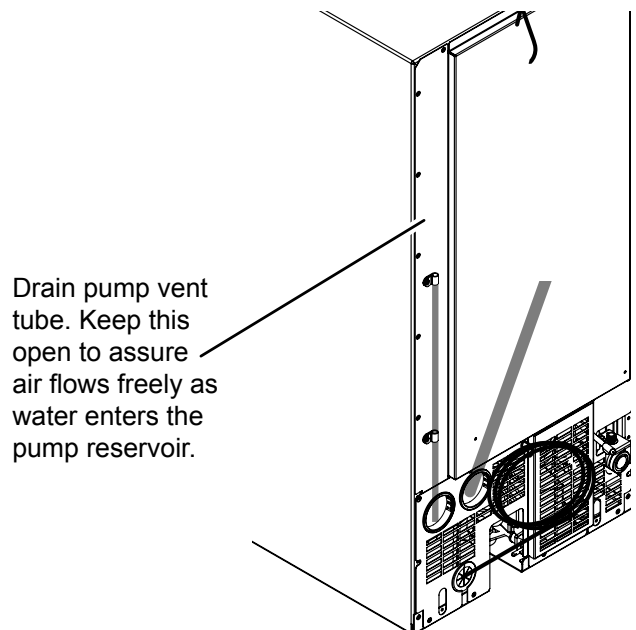

Figure 2: Location of vent tube.
- d. The vent tube on the back of the unit is open (Figure 2).